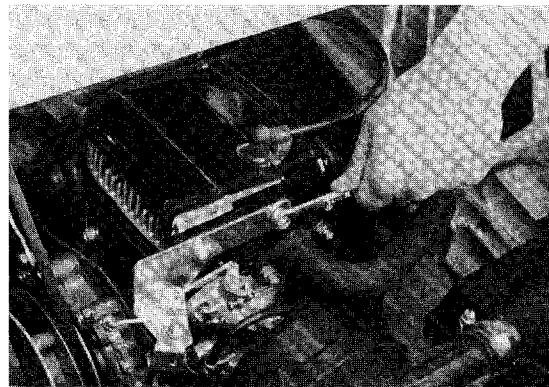

Figure 6-5
2. Remove two bolts from throttle and governor linkage bracket (**Figure 6-5**).